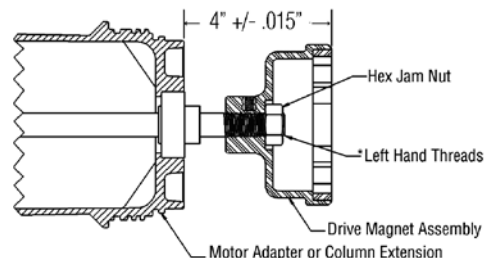

Figure 4
4. For metric frame pumps, install the metric motor adapter flange (item 2) per instructions in step 4 of "Pumps Without Motors (Metric Frame)" from page 1.
7. If column o-rings (item 12) were removed or need replacement, lubricate the o-rings with a compatible lubricant and install them in the o-ring grooves. If the bearing (item 28) was removed, press the new bearing (only making contact with the outer bearing race) into the recess with the extended race (setscrews) facing away from the motor. Install the four retaining screws and washers (items 29 and 33).
8. Lubricate the motor adapter o-rings (item 12) with a compatible lubricant. Place the locking ring (item 11) (with the smaller inside diameter side toward the motor) over the end of the column section and slide it toward the motor. Install the column extension (item 30) by aligning the threaded end of the shaft through the bearing and sliding it down to the top of the motor adapter. Secure the motor and mounting plate to the table. Using a strap wrench, thread the column extension onto the motor adapter. Tighten the section until there is no gap between the sections and the flats are parallel. Tighten the two bearing setscrews into the pump shaft. Pull the locking ring (item 11) toward the pump end until it snaps into place locking the two sections together.
10. Install the left hand threaded drive magnet assembly (item 14) onto the drive shaft (item 13) until it is set at 4.00 +/- .015 as measured from the top of the motor adapter/column extension to the top of the drive magnet assembly. See Figure 4. Apply a small amount of Loctite Thread Locker #262 to the inside threads on the 5/8-18 left hand jam nut (item 32) and the outside threads on the drive shaft. Thread the jam nut on until it makes contact with the drive. Hold the drive magnet assembly still and tighten it to 50 ft. pounds. Recheck the drive magnet setting after the jam nut is tight to ensure it did not move.